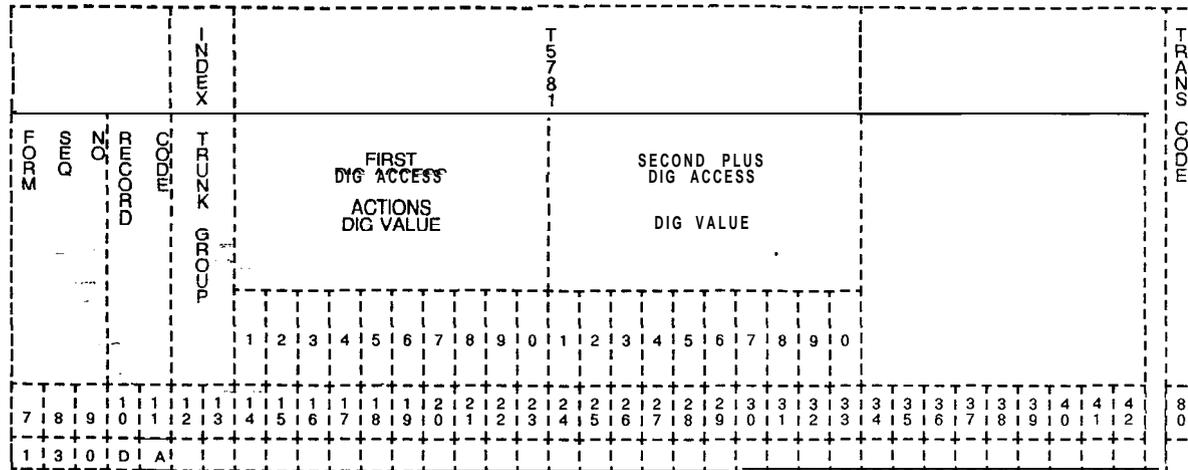

Figure 10.8 Record Code DA: Trunk Group Digit Absorption Data Sheet
**10.8** Record Code DA, Figure 10.8, provides for the absorption of digits by the CO on a per trunk group basis. Digits are not absorbed but are passed over to the end office and are only monitored by the system. These digits are used by the system to determine the start of an NPA or toll code, which is used to perform code restriction. The NPA or toll code must be sent from a non-common control end office. If the end office has no digit absorption characteristics, this record code need not be used. However, if digit absorption is required, the absorption pattern must be obtained.